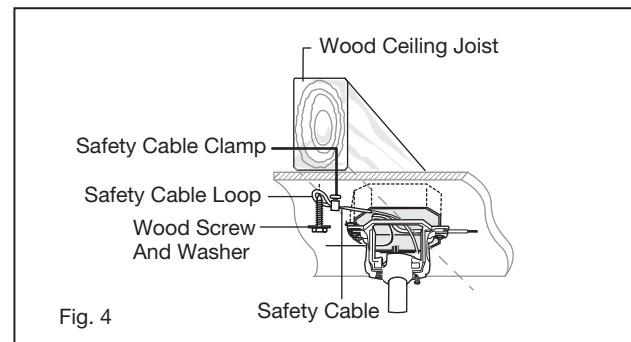

Fig. 4
NOTE: The tab opposite hanger bracket opening should fit in slot on ball. (Fig. 4)
- 2 Connect the black lead wires from the switch in the cradle A to the black wires in the switch box. Hot input wire to one of the cradle switch leads. Power lead to the fan is connected to the remaining switch lead. (Fig. 4)
An UPWARD airflow moves warmer air off the ceiling area as shown in Figure 4. This allows you to set your heating unit on a cooler setting without affecting your comfort.